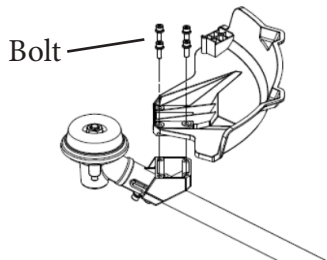

Fig. 8
- Lift the trimmer head and face it upward. Align the FOUR mounting holes in the guard with the four assembly holes at the base of the shaft. Make sure that the internal surface of the guard faces towards the trimmer head. (Fig.8)
- Lock the guard in place and screw the four bolts on with the washers (Fig. 8).